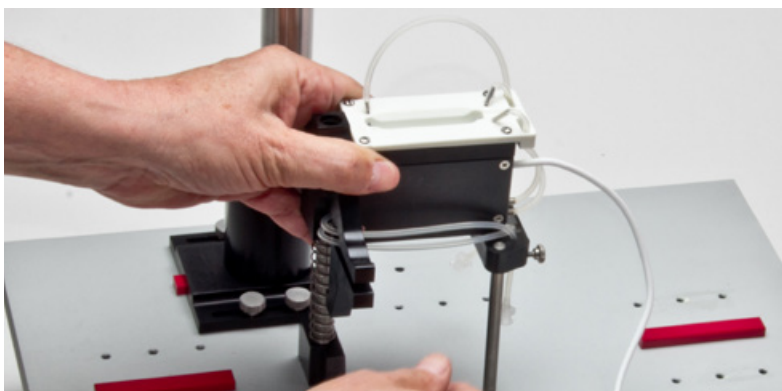

Fig. 4—The Cuvette is installed.
2. The cuvette assembly includes the cuvette and the pseudo cuvette. Remove the thumb screw on the upright cuvette mounting post. Align the cuvette with the upright mounting post and the pseudo cuvette post. Slide the cuvette into position. (**Fig. 4**). Gently press the cuvette latch to retract it and slide the cuvette into its lower position. Release the latch so that it holds the cuvette in the lower position. Reinstall the screw in the top of the cuvette mounting post. Slide the pseudo cuvette over the second upright post (Pseudo cuvette mounting post).